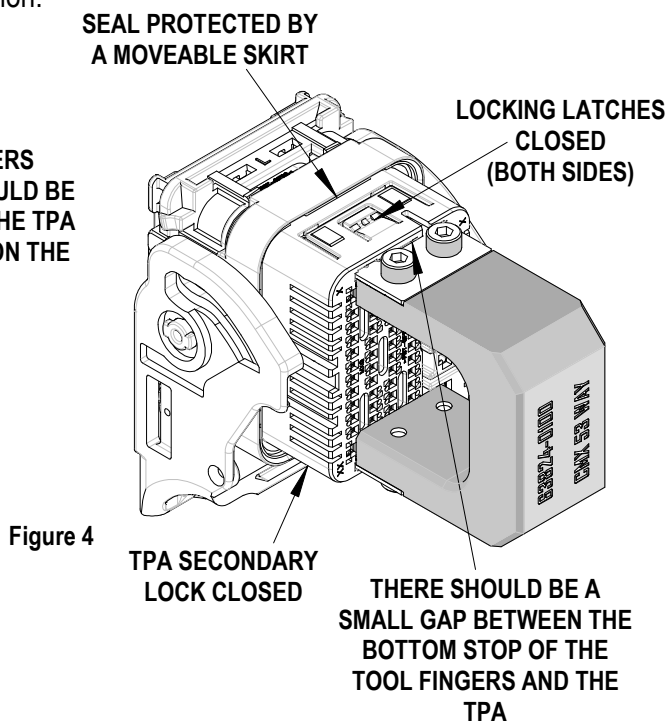

Figure 4
3. Make sure there is no space between the TPA and the seal. See Figure 4.